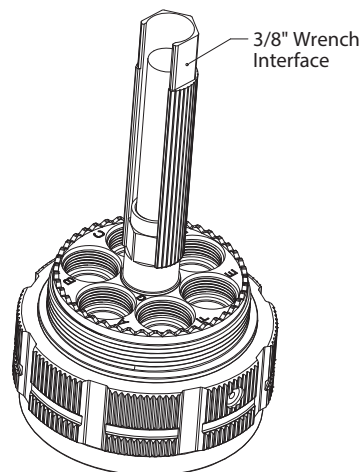

FIGURE 3
- C. Slide the retention ferrule forward. Then, using the retention ferrule tool (Glenair P/N 607-011), and a 3/8" wrench, tighten the retention ferrule to a torque of 5-10 in-lb. (Figure 3)